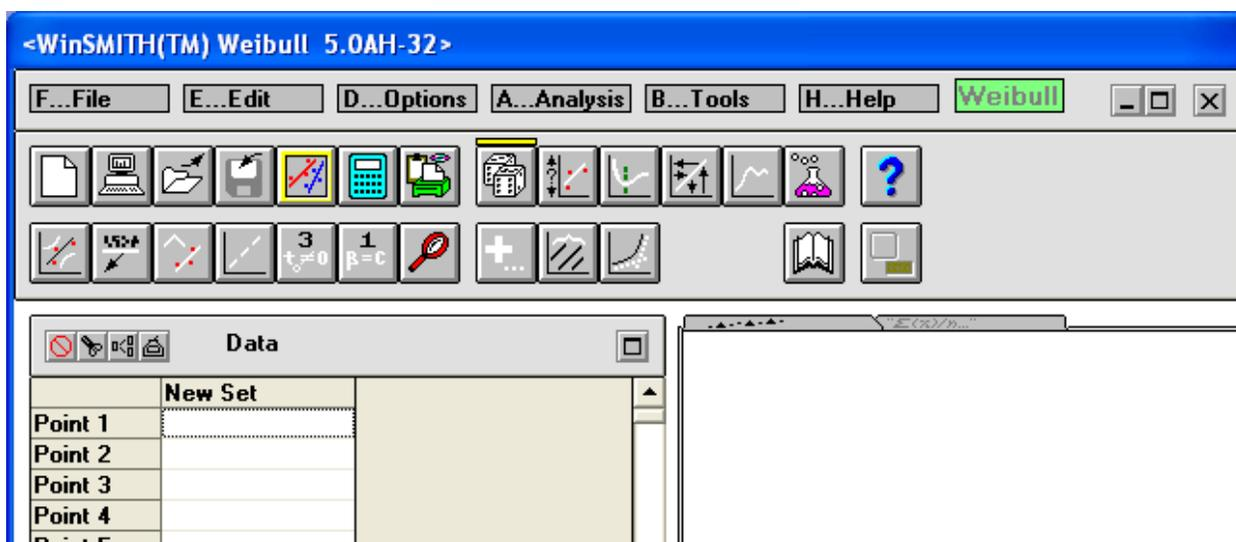
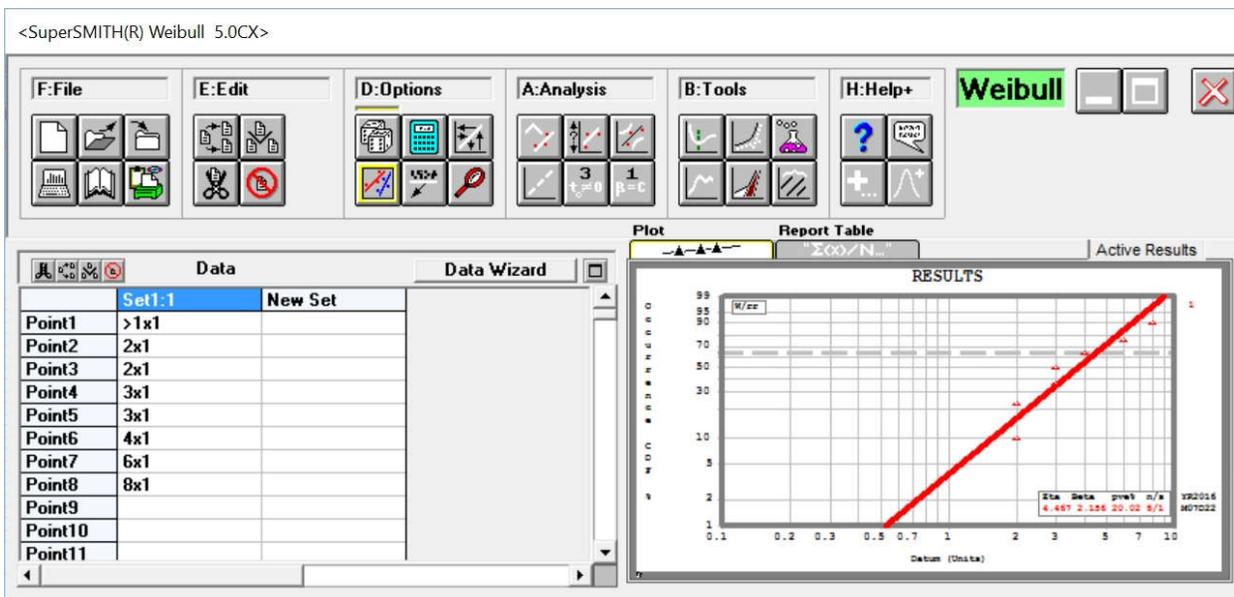

Figure 1: Old Main-Screen Layout (See Figure 2 For New SSW Layout and the last page for SSV)
Figure 2: New SuperSMITH Weibull Main Screen Icon Layout with Solution Plot.
It is recommended to make a backup copy of any original installation media before starting. **REMOTE INSTALL:** Available for networks ... contact Fulton Findings for info. **DIRECT INSTALL:** Power up the PC (Windows or simulator). With CD ... Put the SuperSMITH disk into the PC, or from downloaded file, select the SETUP.EXE program. Run SETUP.EXE and follow the prompts. Within the SuperSMITH group, select the SuperSMITH Weibull program. This is the SMITHW.EXE file or the icon showing plotted data with fit and confidence lines. Initially select “Yes” to agree to usage conditions, and automatically advance to the main screen (Figure 1 below shows former icon layout, Figure 2 on the next page shows the new icon layout).
Use single clicking (selecting) mostly in SuperSMITH; double-clicking is discouraged to minimize hand stress. We will be using life data mostly for illustration, but any type of measured data with variability will work. However, for this DEMO tutorial using the DEMO software, **all input data must only be loaded from a file previously saved by a FULL SuperSMITH software program.** These files are provided with the software. Figure 1 shows the former SuperSMITH Weibull icon layout and Figure 2 shows the new icon layout.
- A probability plot should appear. Select the plot to enlarge. The plot should appear similar to the one in Figure 2. Your solution should indicate $\text{Eta}=4.467$, $\text{Beta}=2.156$. If not ... check the data and/or reset the method to Weibull rank regression standard. Select the full-window plot or use the <ESC> key to shrink the plot and go back to the main screen.